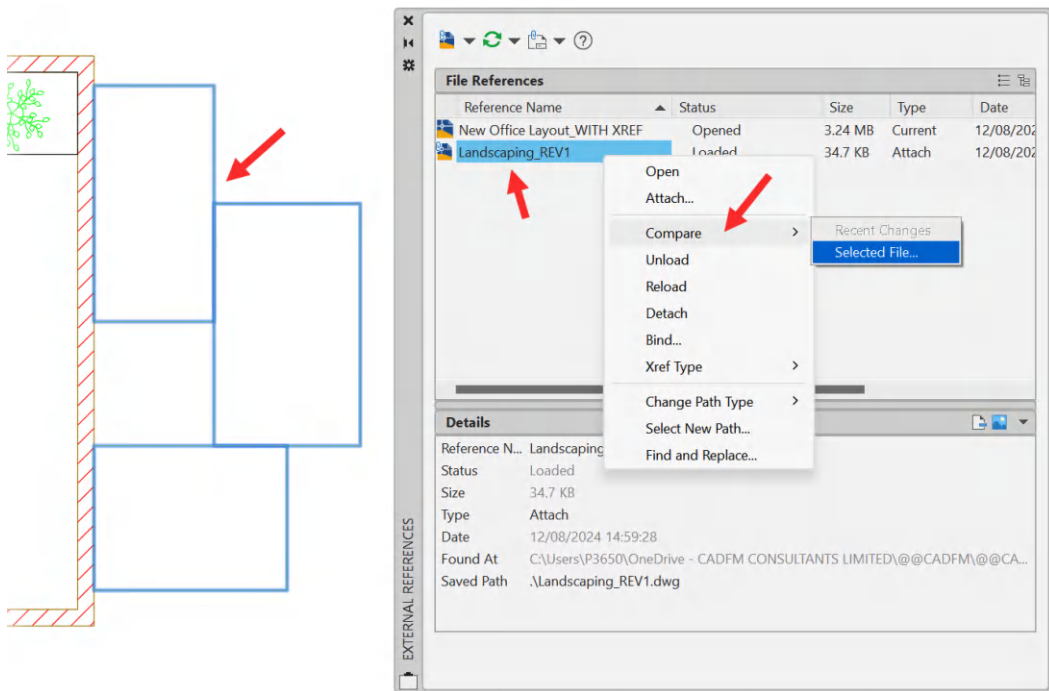

Figure 14.20: The selected Xref file in the drawing and on the palette
4. Select the `Landscaping_REV1.dwg` file in the **EXTERNAL REFERENCES** palette. It will be highlighted in blue on the palette and in the host drawing, as shown in *Figure 14.20*.
5. As also shown in *Figure 14.20*, right-click on the selected Xref file. The shortcut menu will appear. Select **Compare**, followed by **Selected File....**